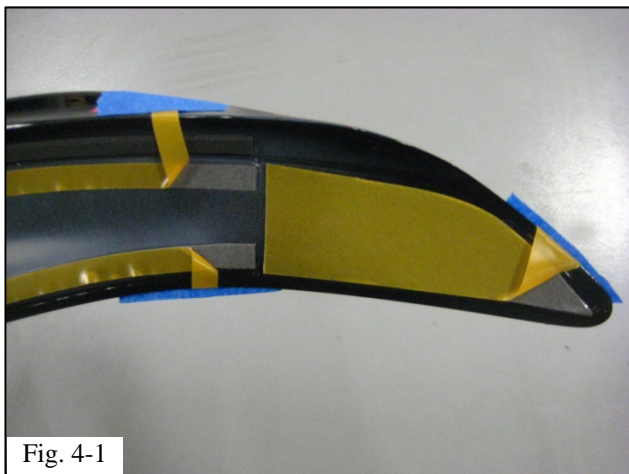

Fig. 4-1
- (a) Fold back and tape the plastic pull tabs to the outside surface of the spoiler. Be careful not to touch or allow any contaminants to come into contact with the adhesive tape (Fig. 4-1).